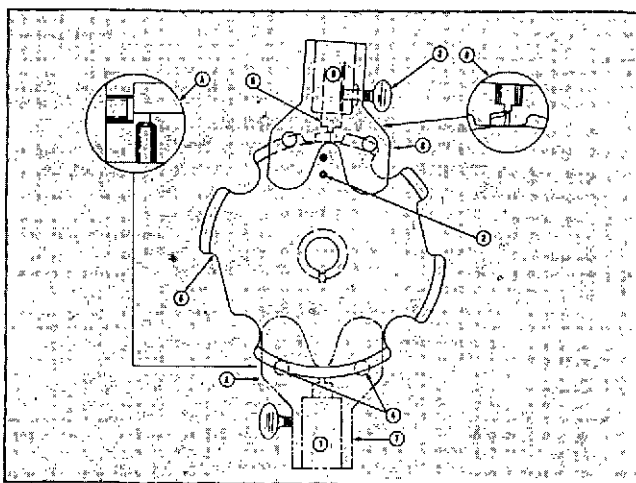

Fig. 1-1-30, V40157. ST-1081 Tool bit
2. Presetting tool bit Fig. 1-1-30 .
a. Loosen thumb screw (3, Fig. 1-1-30) and push adjusting pin (5) back into housing.